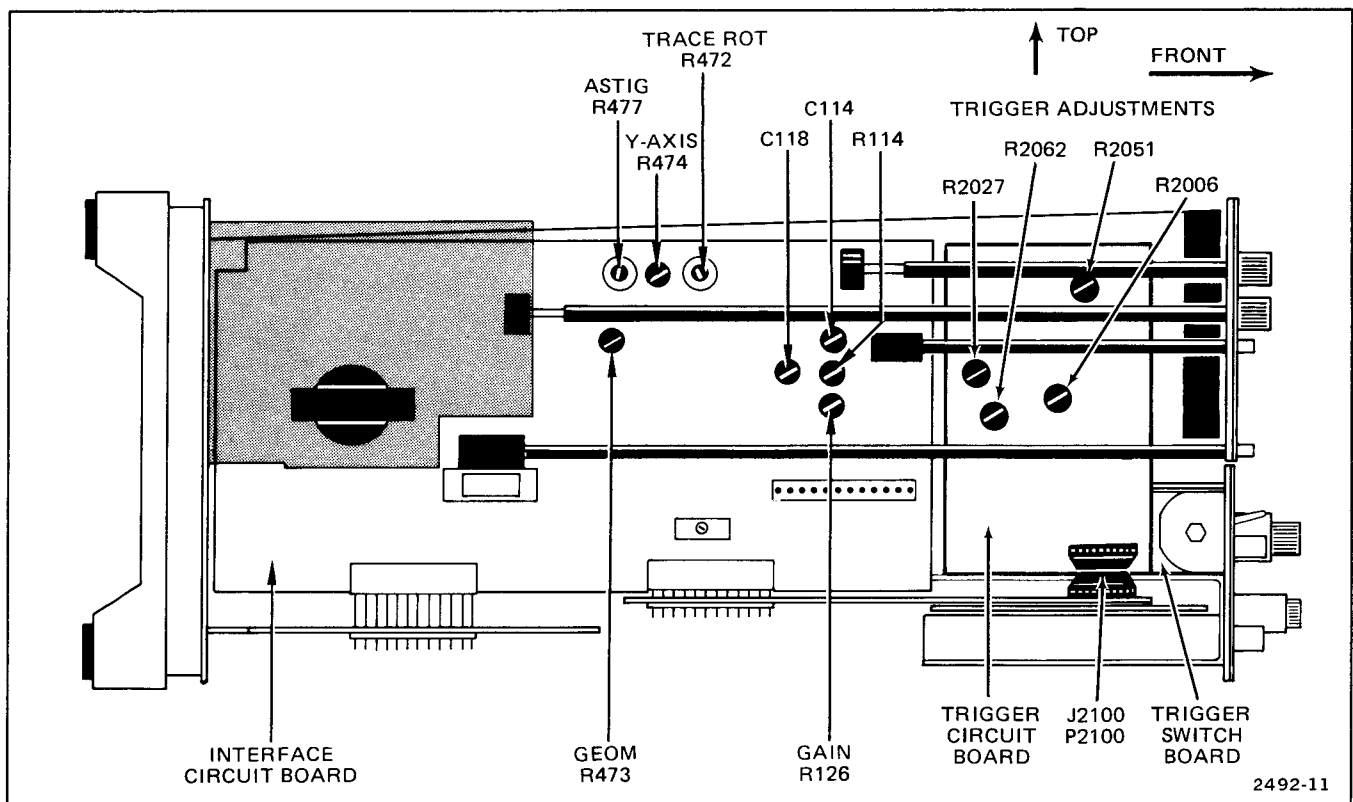
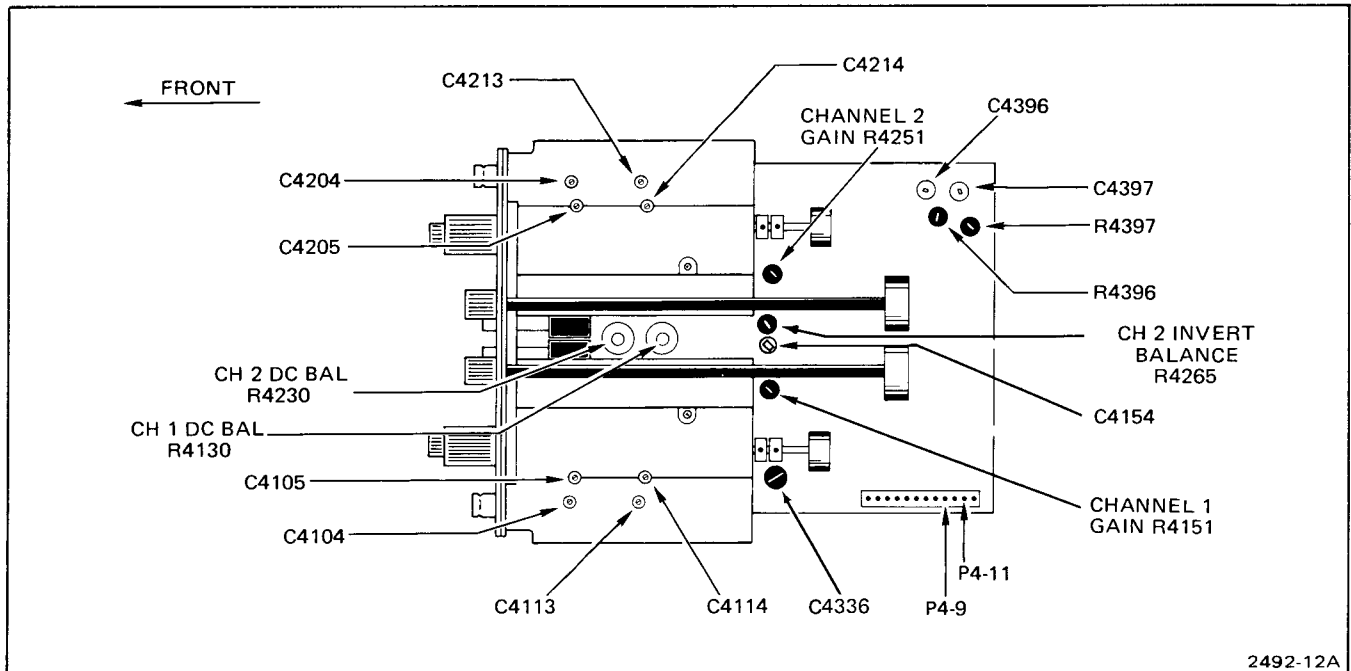
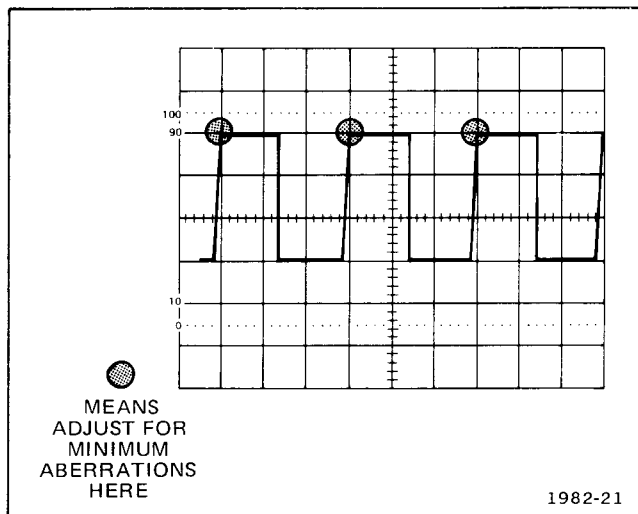

Fig. 4-2. Interface board adjustment locations (on left side of crt).
Fig. 4-3. Vertical Amplifier adjustment locations (bottom view of instrument).
Fig. 4-4. Display of correct attenuator compensation (idealized).
- ADJUST—Trace Rot, R472 (see Fig. 4-2), to align trace with center horizontal graticule line.
- ADJUST—Y-axis, R474, (see Fig. 4-2) to align center marker with center vertical graticule line.
- ADJUST—Geom, R473 (see Fig. 4-2) for best alignment of markers with the vertical graticule lines, i.e.: minimum bowing of markers.
a. ADJUST—CH 1 DC BAL, R4130 (see Fig. 4-3), for no trace shift while switching CH 1 VOLTS/DIV control between 2 mV and 10 mV.
c. ADJUST—CH 2 DC BAL, R4230 (see Fig. 4-3), for no trace shift while switching CH 2 VOLTS/DIV control between 2 mV and 10 mV.
b. Set Gain, R126 (see Fig. 4-2), to physical midrange.
c. Connect digital voltmeter between P4-9 and P4-11 (see Fig. 4-3). Select range on meter for at least 500 mV reading.
f. Adjust Gain, R126 (see Fig. 4-2), so trace aligns with third graticule line above center horizontal graticule line.
c. ADJUST—CH 1 Gain, R4151 (see Fig. 4-3), for a 4-division display.
e. ADJUST—Gain, R4351 (see Fig. 4-3), for 4-division display.
e. ADJUST—C4397, R4397, C4396, R4396 (see Fig. 4-3), C114, R114, (see Fig. 4-2), for best front corner of waveform using a low-capacitance alignment tool.
h. ADJUST—C4154 (see Fig. 4-3), for best square front corner of waveform using low-capacitance alignment tool.
c. ADJUST—C4114 (see Fig. 4-3) for best square front corner (see Fig. 4-4 for example).
e. ADJUST—C4105 (see Fig. 4-3) for best square front corner (see Fig. 4-4 for example). Disconnect test equipment.
c. ADJUST—C4214 (see Fig. 4-3) for best square front corner (see Fig. 4-4 for example).
e. ADJUST—C4205 (see Fig. 4-3) for best square front corner (see Fig. 4-4 for example). Disconnect test equipment.